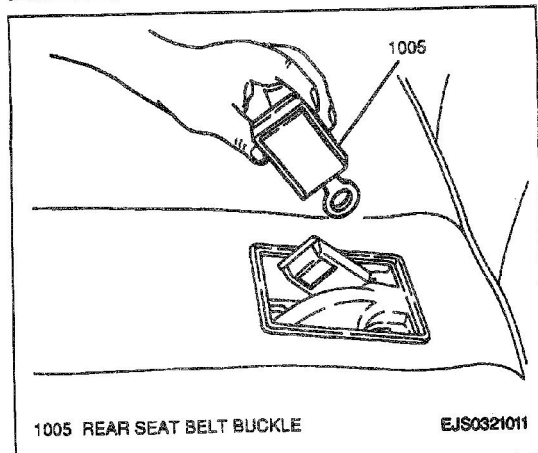

Figure 18—Removing Rear Seat Belt Buckle
9. Rear seat belt buckle from seat (Figure 18).